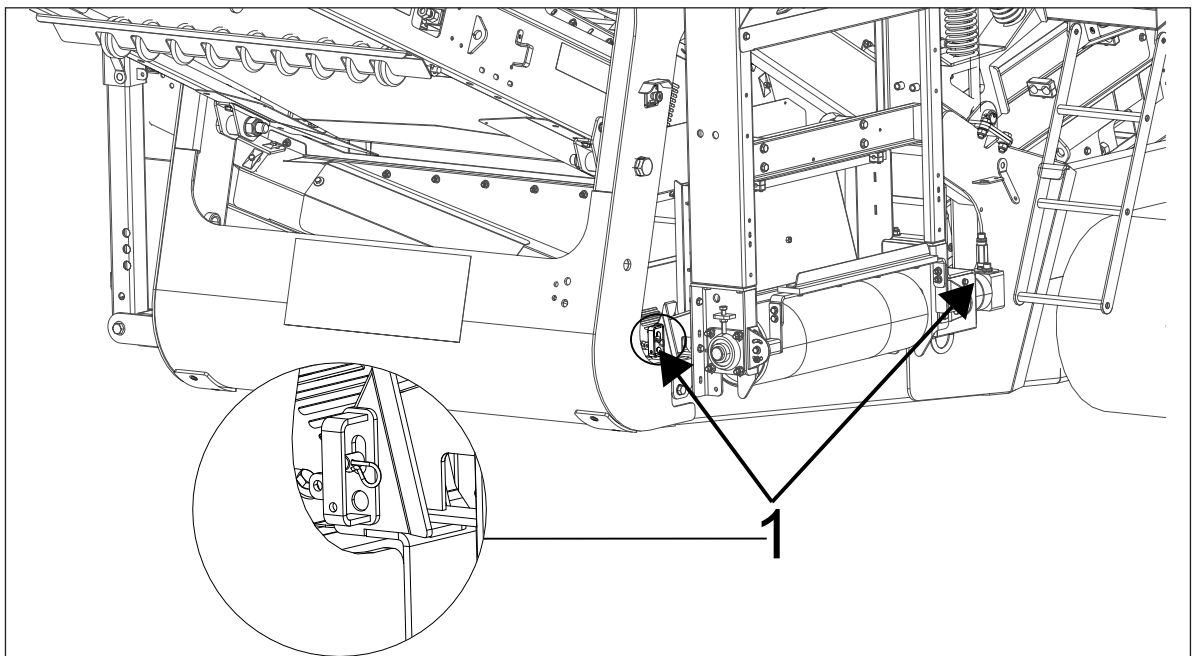

Figure 4.81 - Head Section Securing Pins
2. Remove the securing pins (Item 1, Reference: Figure 4.81) from the head section of the conveyor.